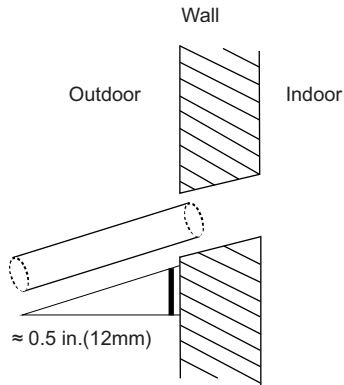

Fig. 32 —Drill hole
- Use a 1" core drill to drill a hole in the wall. Make sure the hole is drilled at a slight downward angle, so that the outdoor end of the hole is lower than the indoor end by about 0.5in (12mm) (see Figure 32). This will ensure proper water drainage. Place the protective wall cuff in the hole. This protects the edges of the hole and helps seal the hole once the installation is complete.